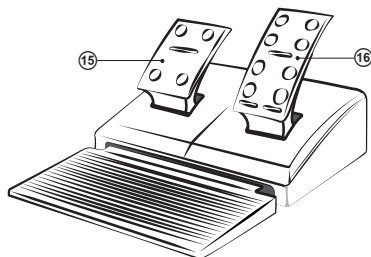

Fig. 3. Foot pedal unit
- Connect pedal unit to the device (Fig. 3) via cable of the pedal unit to RJ-11 jack1 ⑬, then connect USB cable ⑭ of the device to the USB port of the computer.